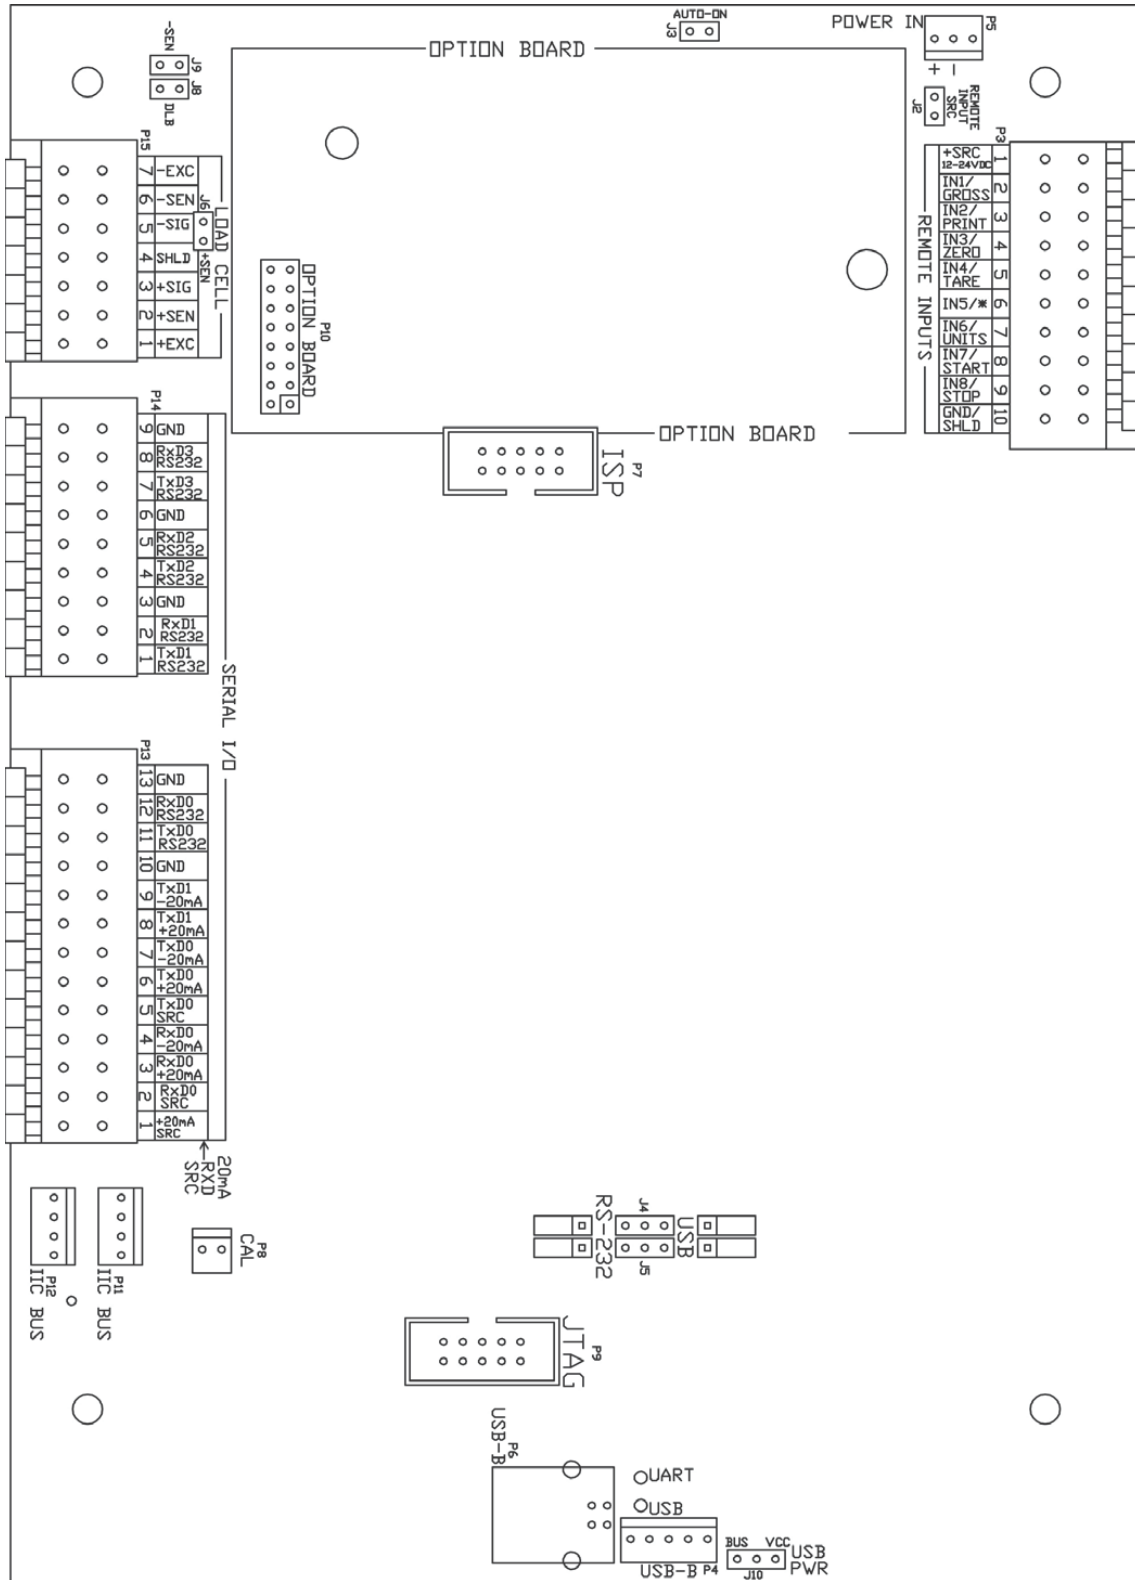

Figure No. 10
4. Connect each of the wires to the Serial Data terminal block (P13 and P14) referring to Figure No. 10 for terminal block locations.
The USB port is enabled with jumpers J4 and J5 (see Figure No. 10) set to the USB position (utilizing the indicator COM3 serial port) and the USB PWR jumper, J10 (see Figure No. 10), set to the BUS position to be powered by the USB host or to the VCC position to be powered by the 205 indicator main PC board.
7. Plug the USB cable connector onto the USB-B, P4 header, referring to Figure No. 10 for the location of P4. Tighten the gland cable nut on the USB cable.
4. Plug the USB cable into the USB-B connector P6. See Figure No. 10 for the location of P6.
Included with the I/O are 4 programmable inputs that may be used to remotely (up to 100 feet) initiate various functions within the indicator. These inputs are accessed via a terminal block (P3) on the back of the PC board (see Figure No. 10). The 8 inputs are defined as follows: